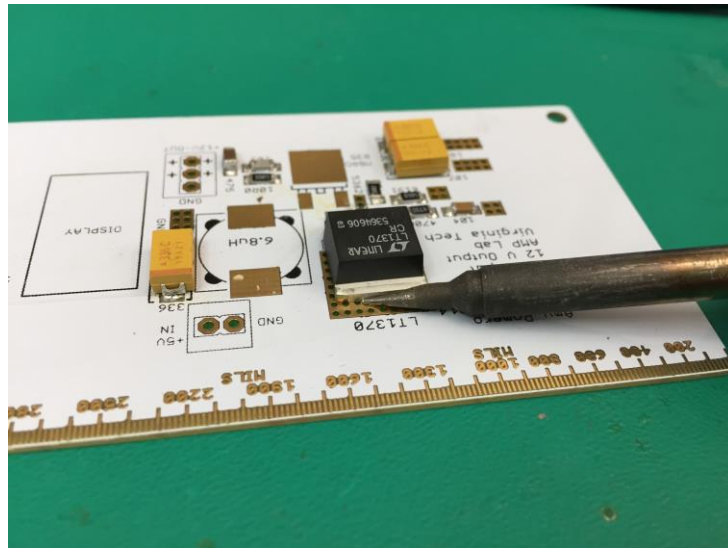

Figure 6.
- h. Place the iron down on the pad and heat up both the component and the pad. Place it down such that you get as much surface area contact on the pad. (Figure 6)